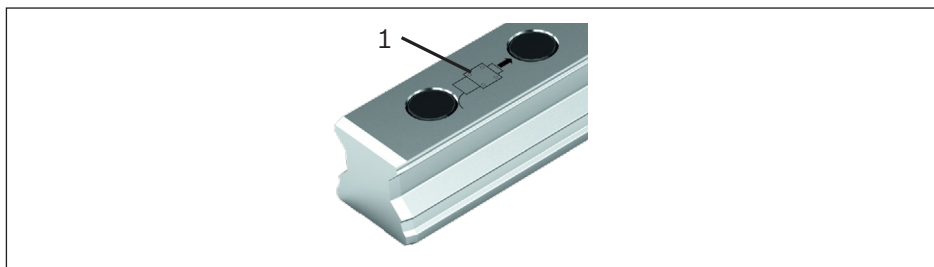

Fig. 4: **Preparatory steps**
- ▶ The Runner Block must be pushed on after the installation of the Guide Rail as shown in Fig. 4.
- ▶ Warning: when a cover strip is used, the mark (1) is covered and the push-on direction is no longer visible.